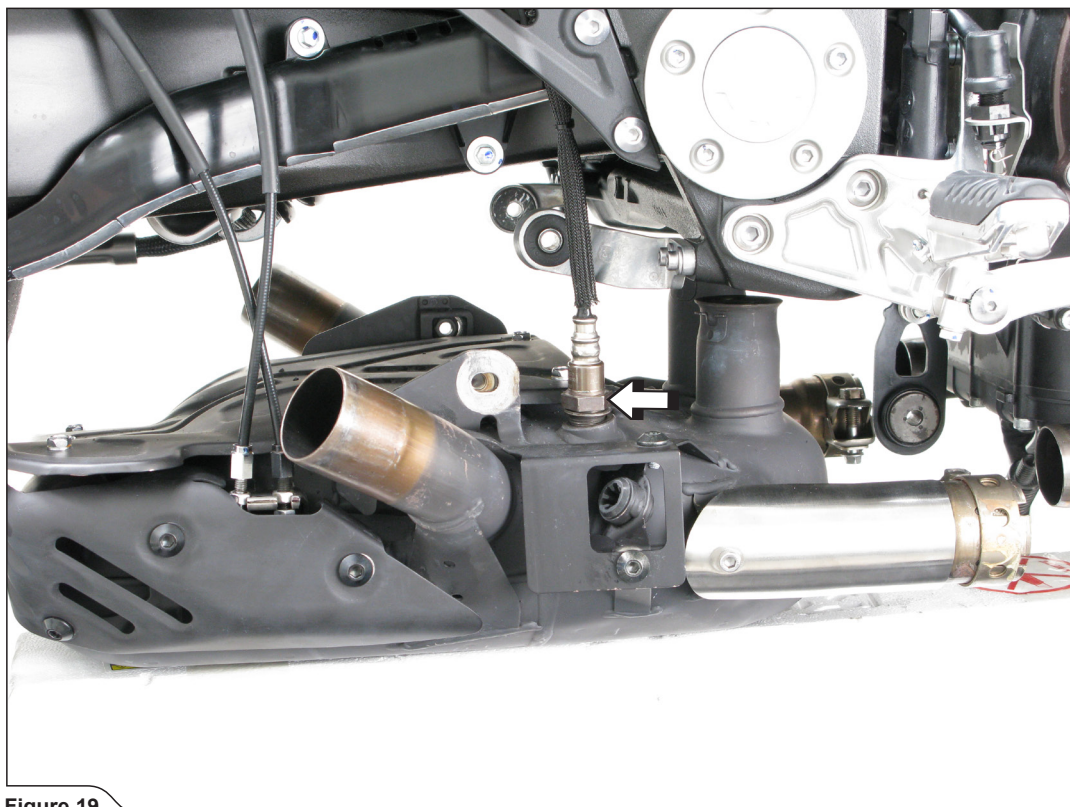

Figure 19
17. **For OPEN SLIP-ON only:** remove the stock catalytic converter box and unscrew the lambda sensor (**Figure 19**).